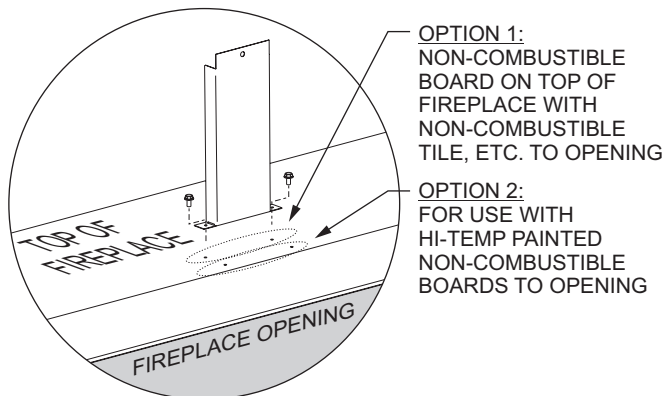

Figure 10
4. Secure the brackets to the fireplace top with four screws as shown in **Figure 10**. The screws are located in the hardware packet inside the envelope pack. There are holes located in the top of the fireplace for each mounting bracket. The hole closer to the edge of the fireplace is for mounting noncombustible board around the opening. The other hole is for mounting the non-combustible board to the fireplace face (top, side and bottom). **See Figures 10 to 14.**
5. On the top and bottom of each side are side framing standoffs. Use pliers to bend the side framing standoff 90 degrees away from the cabinet. **See Figure 10.**